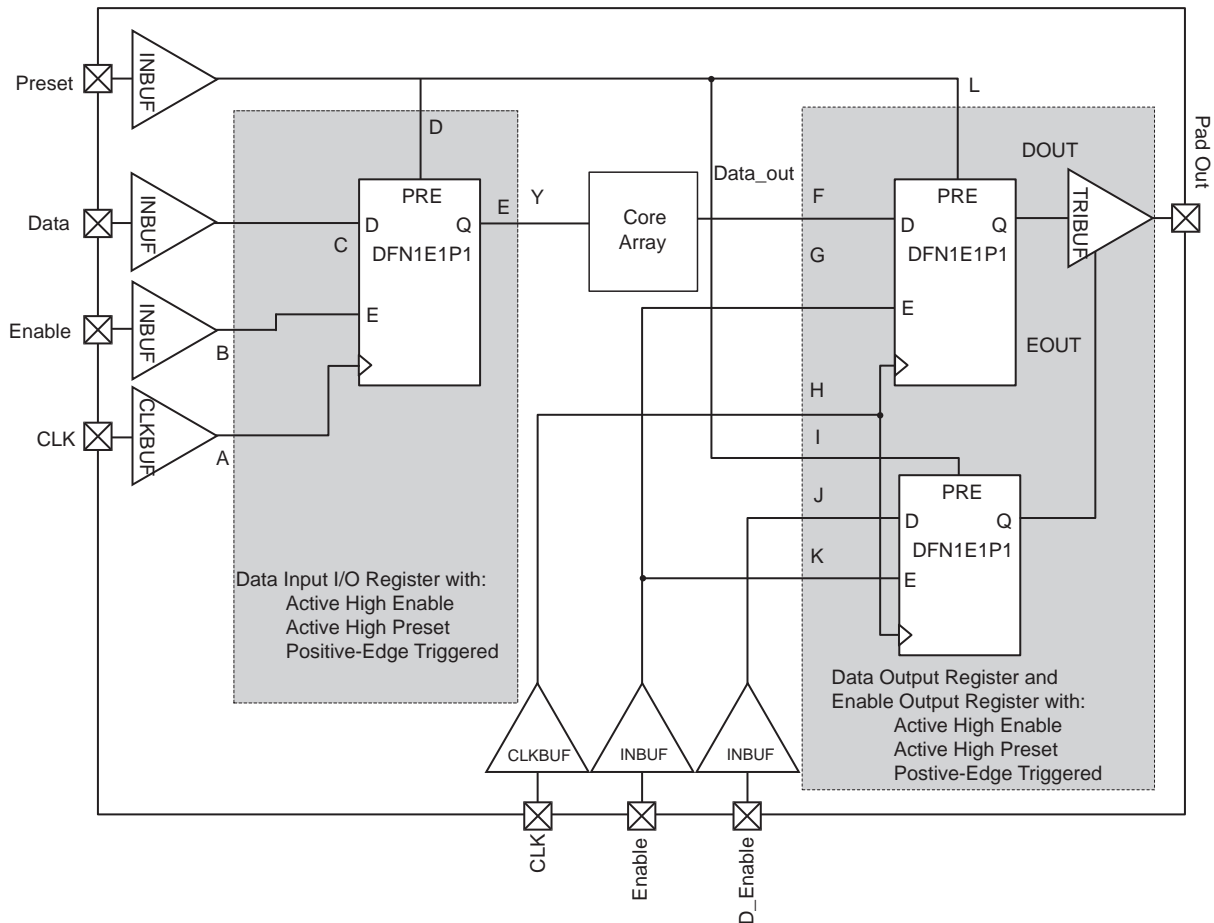

Figure 2-24 • Timing Model of Registered I/O Buffers with Synchronous Enable and Asynchronous Preset
* See Figure 2-24 on page 2-53 for more information.